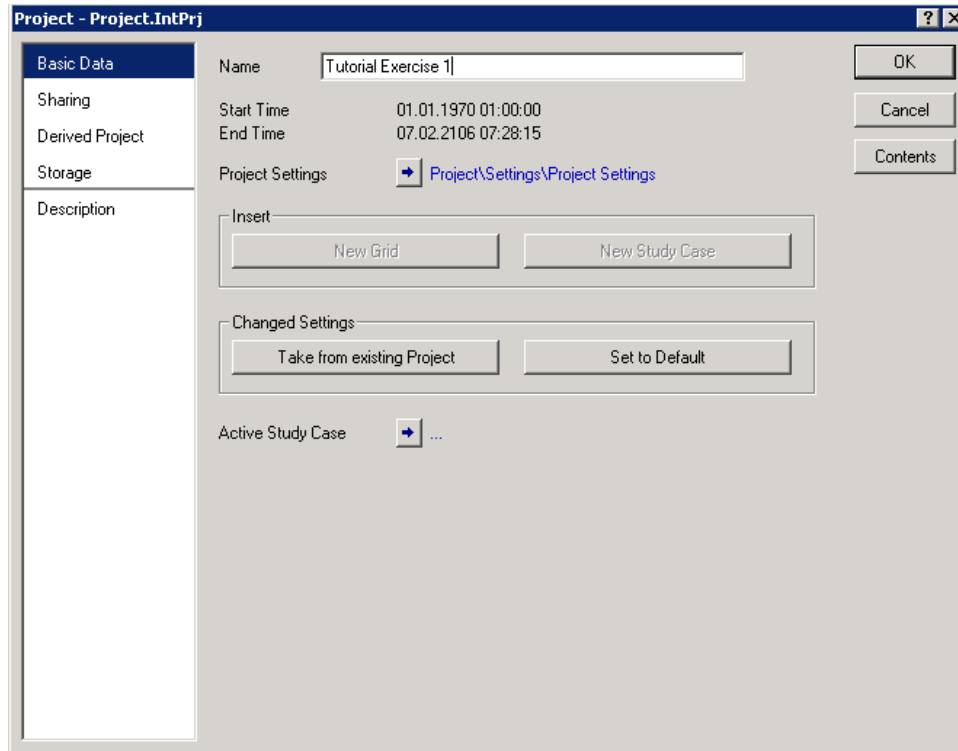

Figure C.2.2: The project dialogue (IntPrj)
- The dialogue shown in Figure C.2.2 will pop up. This dialogue, as most others in this Tutorial, is shown as it should look after it has been edited.